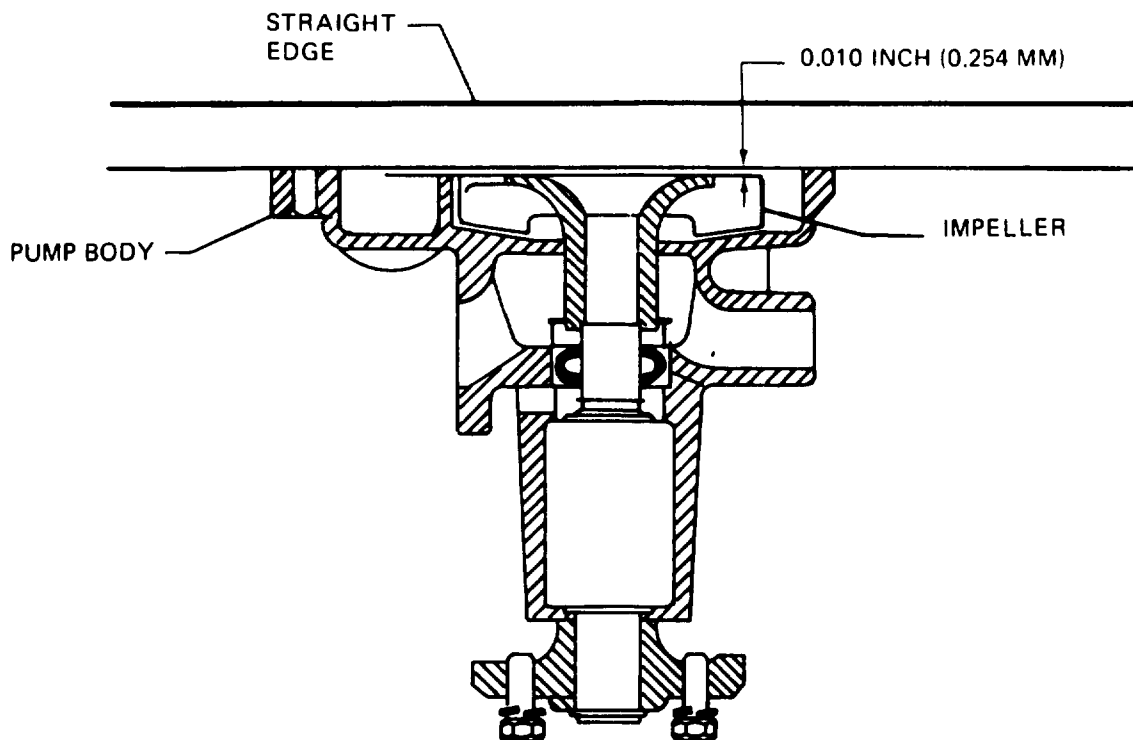

Figure 3-29. Checking Impeller to Cover Plate Clearance
- (2) Press shaft, bearing and flinger assembly (9) into pump body and install retaining ring (2).
(3) Support pump on outer end of shaft and press impeller (10) onto shaft, bearing and flinger assembly to obtain 0.010 inch clearance between impeller and cover plate (figure 3-29).
(4) Install gasket (8) and cover plate (7) and secure with screws (3). Install bracket (6) with screw (4) and washer (5).
(5) Press pulley hub (1) onto shaft (9) until shaft is flush with front of pulley.
(6) Install water inlet housing (15) and new gasket (16) with screws (13) and lockwasher (14).